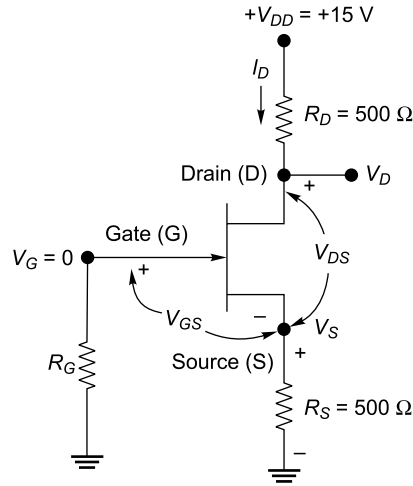

Fig. 1.69
1.8 Determine the value of drain-to-source voltage (V_{DS}) and gate-to-source voltage (V_{GS}) for an n -channel JFET as shown in Fig. 1.69. Assume $I_D = 4$ mA.